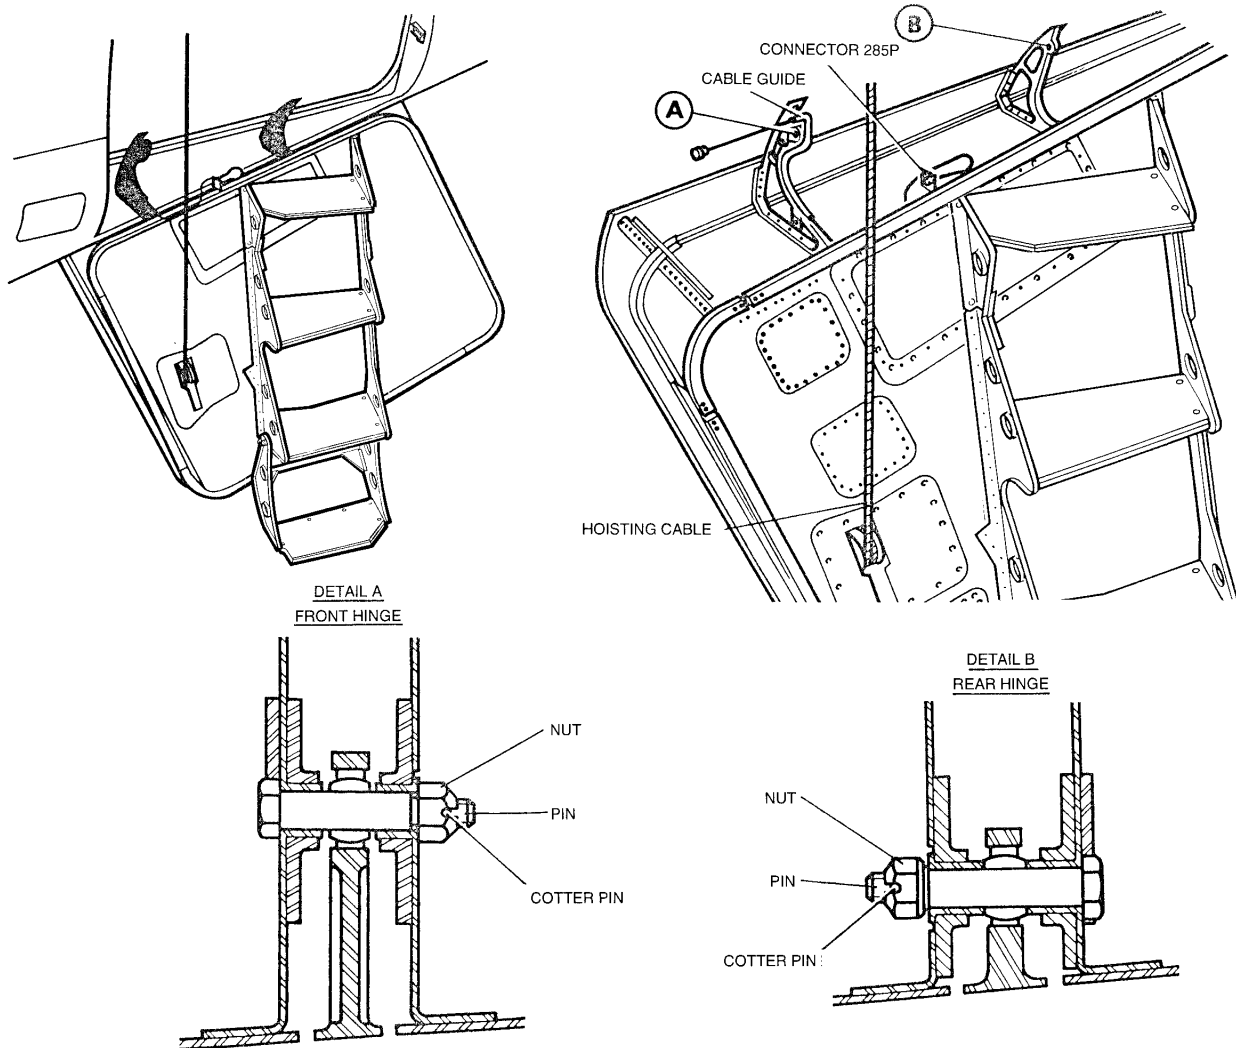
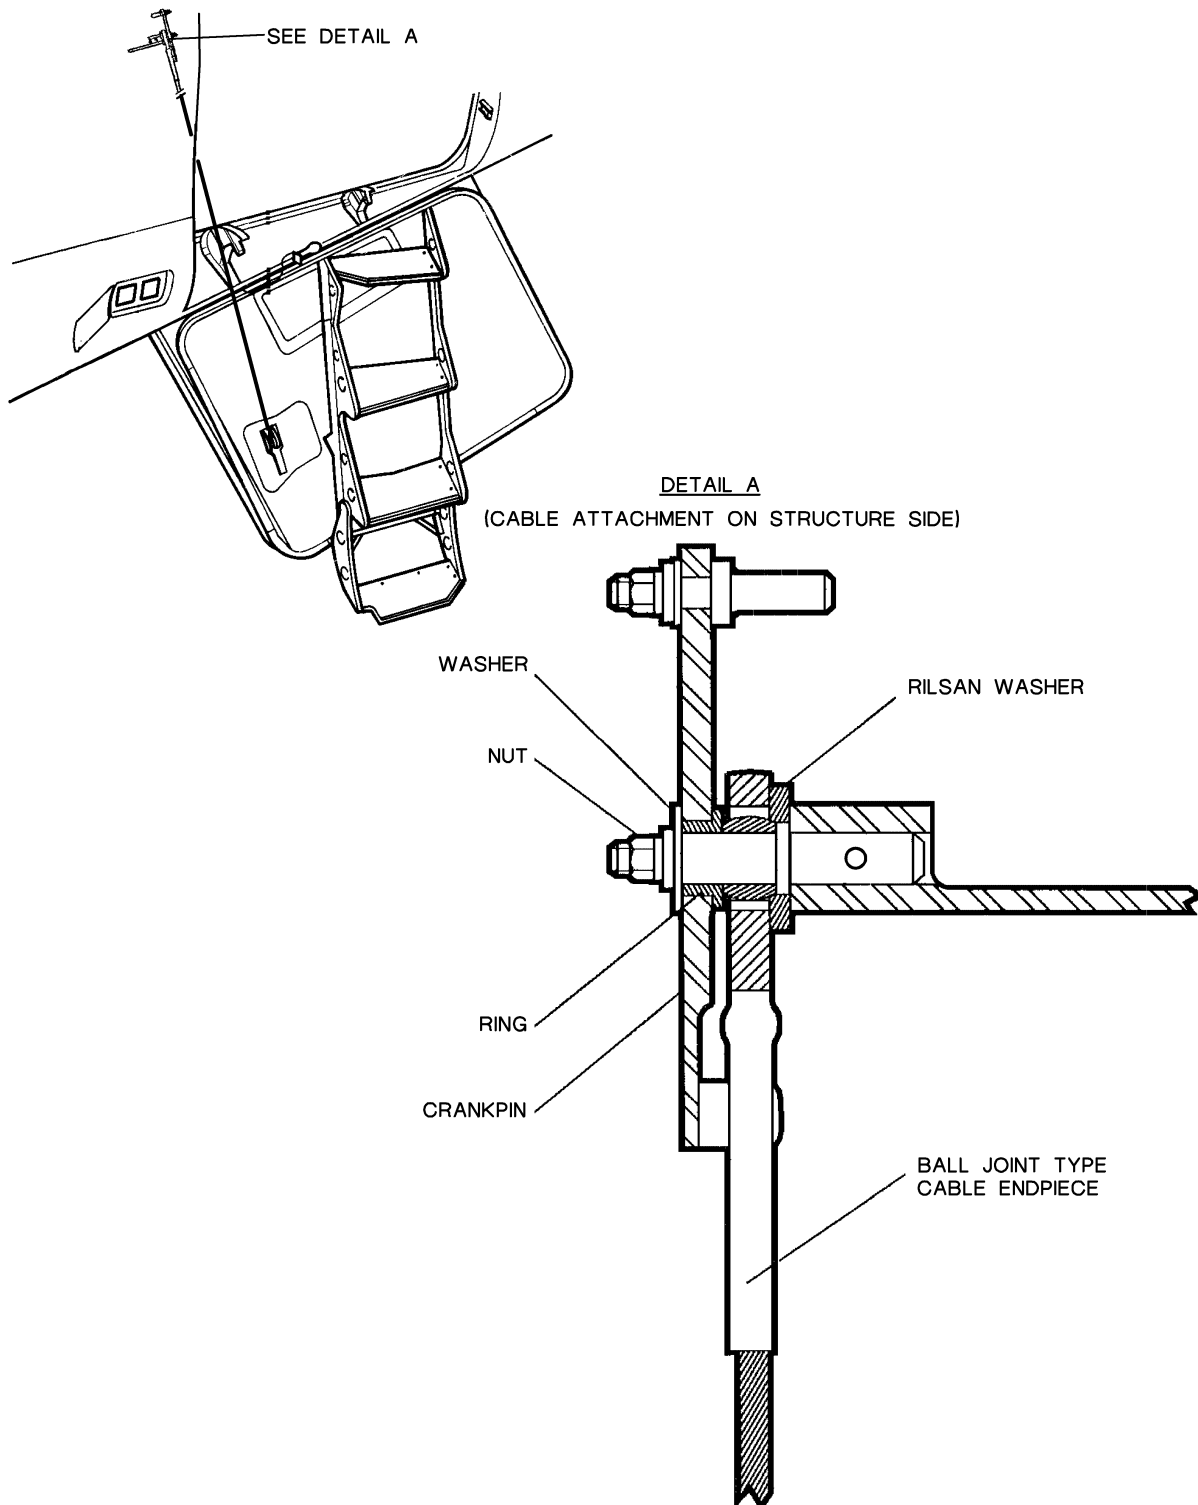

Figure 1: Removal/Installation of Baggage Compartment Door
Figure 2: Attachment of Reducing Gear Motor Cable on Structure Side
Refer to **fig. 1** and **fig. 2**
- C. A second operator must support the door while the lifting cable is being disconnected from the forward end of the frame: recover the washer, the nut and the crankpin assembly (**fig. 2**).
- C. Secure the lifting cable to the forward end of the frame: engage the cable endpiece on the upper attachment pin then install the washer, the attachment nut and the crankpin assembly (**fig. 2**).
Refer to **fig. 1**
Refer to **fig. 2**
Refer to **fig. 1**, **fig. 3**, **fig. 4** and **fig. 5**
- (11) Measure the time required for the opening of the door under its own weight: 8 ± 2 seconds.
- (12) With the door fully opened, check that the cable length is: $^{+0}_{-12}$ mm ($^{+0}_{-0.5}$ in.) between the tangent point on the hoist pulley and the upper attachment point pin.
- (13) With the door (**BAG**) open and cabin/baggage compartment communication door (**281DZ**) closed, check that baggage compartment dome light (**5LH**) illuminates (**fig. 1**).
- (14) On A/C ≥ 41 , unfold the folding step and check that the door cannot be lifted by pressing "UP" pushbutton (**6MC**).
- (15) Fold back folding step (6) against the baggage compartment door fixed steps.